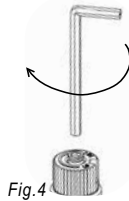

Fig.4
- 18) Using the Allen wrench as shown in Fig.4, rotate the screw clockwise until snug, do not overtighten.